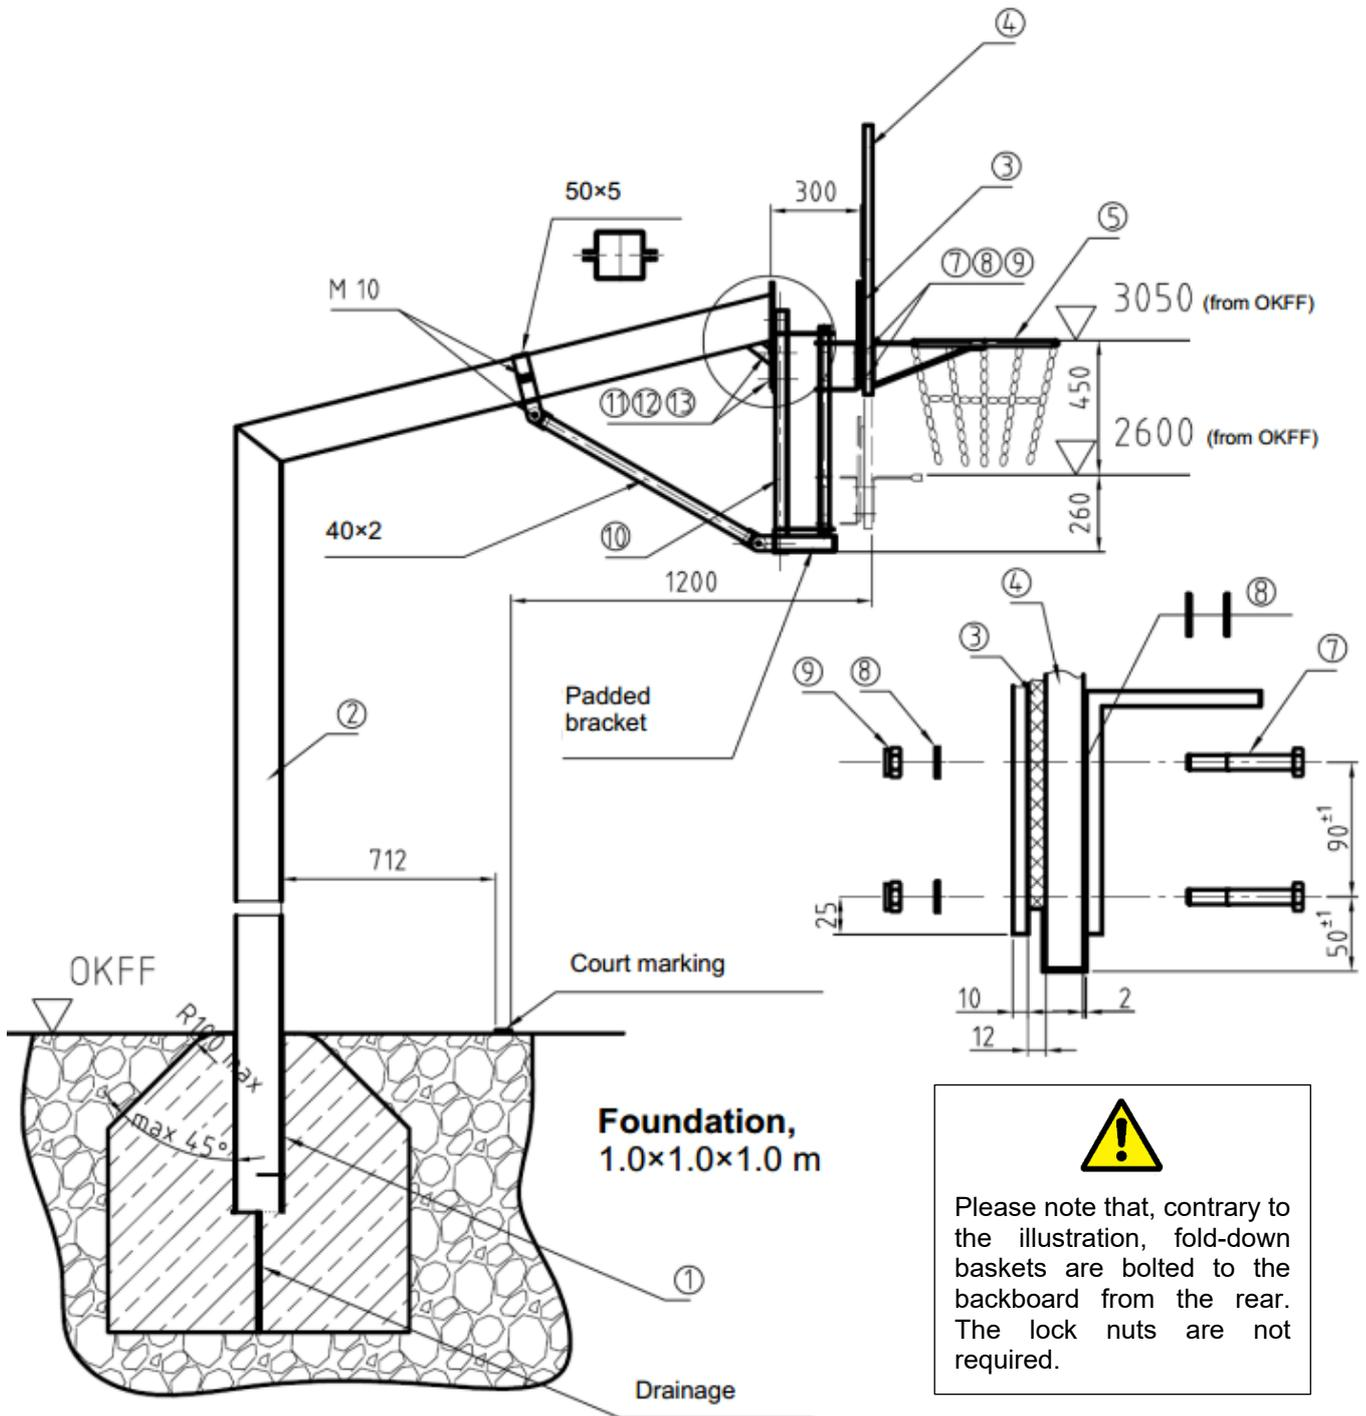

Figure 2: 'Fair Play' unit with height adjustment feature
For safety reasons, the bracket on the bottom of the backboard comes with padding (see figure 2). We also recommend using protective post padding (product code 116 1726).
For the assembly, the washers (8) are not required. See figure 2 for further details regarding installation.
The damping pad, the relevant backboard and the hoop are attached to the front of the height adjustment feature (see figures 2 and 3 for details).